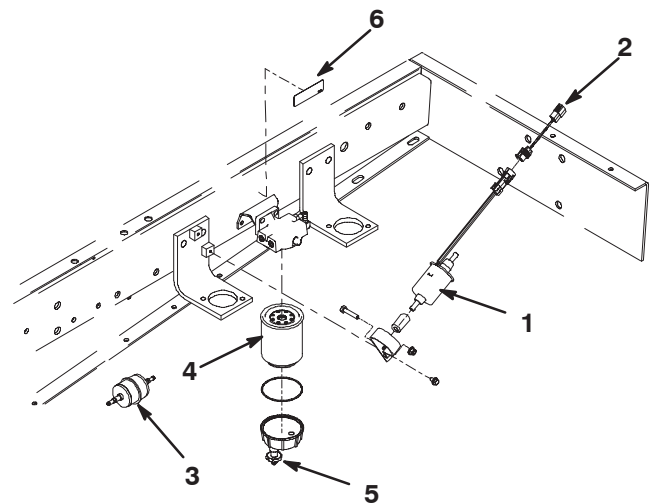

Figure 12
Groundsmaster 228 (Fig. 12)
4. Mount the new fuel pump to the clamp with a 1/4 x 2 inch capscrew and a 1/4 flange locknut. Position the clamp as shown in figure 12.